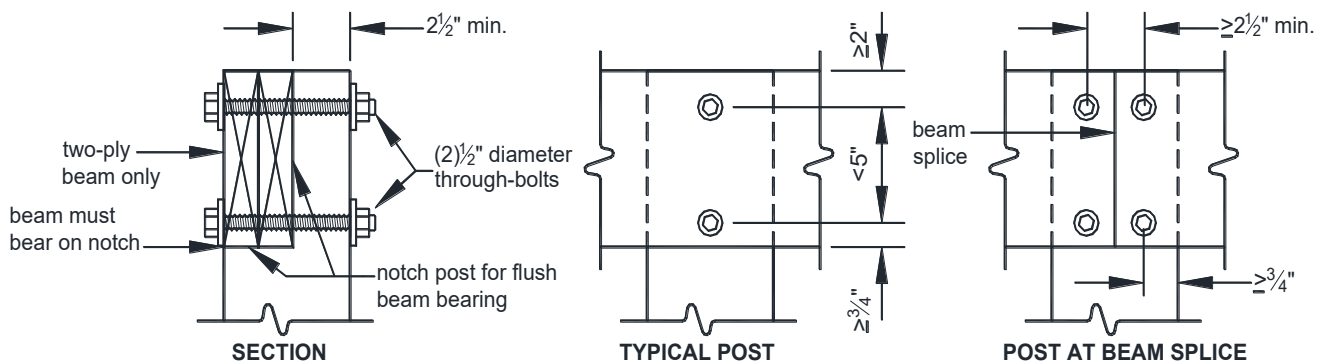

FIGURE 2: NOTCHED 6x6 POST-TO-BEAM CONNECTION
- Beams shall be attached to 6x6 posts using the method shown in FIGURE 2.